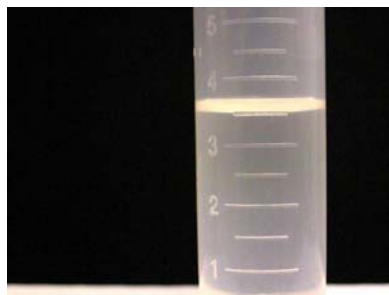

Figure 1.
- Fill the dropper to the graduation mark on the eyedropper between the 1.0 and 2.0 ml to obtain 1.50 ml of sample (see Figure 1).